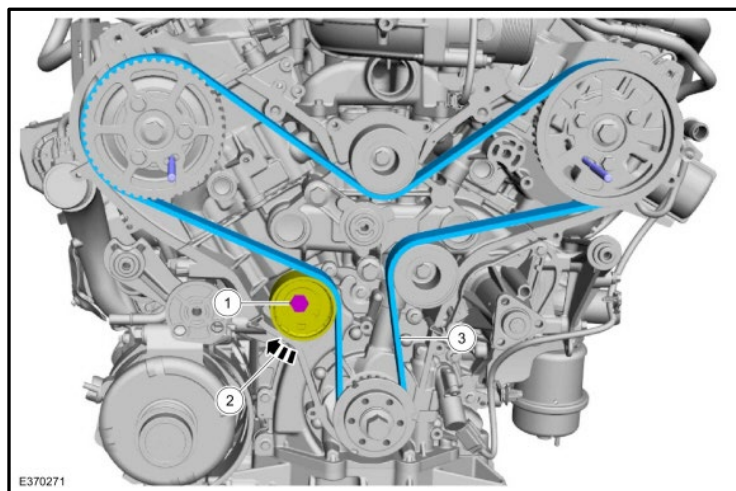

Figure 14
3. Remove the timing belt. Figure 14.